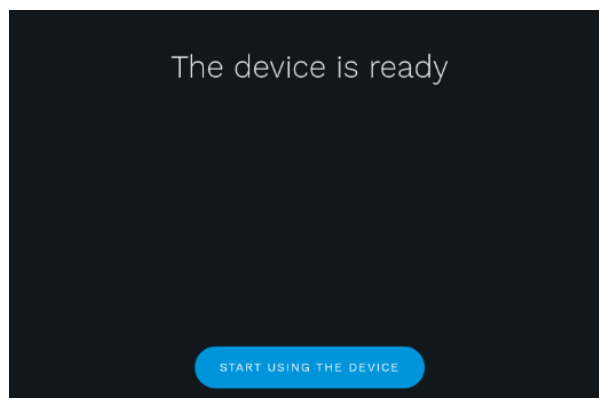

Fig. 24 - End of the Configuration Wizard
13. The device is ready (Fig. 24): after pressing the **START USING THE DEVICE** button, the *Login screen* will appear (see §6.7).